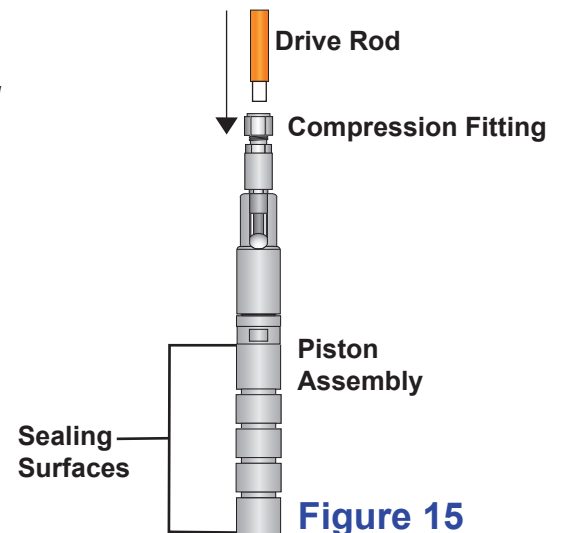

Figure 15
17. Using a utility knife, shave off two inches of the plastic coating from one end of the fiberglass drive rod, being careful not to mar the surface of the fiberglass drive rod. Insert the drive rod into the piston's compression fitting (Figure 15). While keeping the drive rod fully inserted into the compression fitting, tighten the fitting firmly using two 8" wrenches.